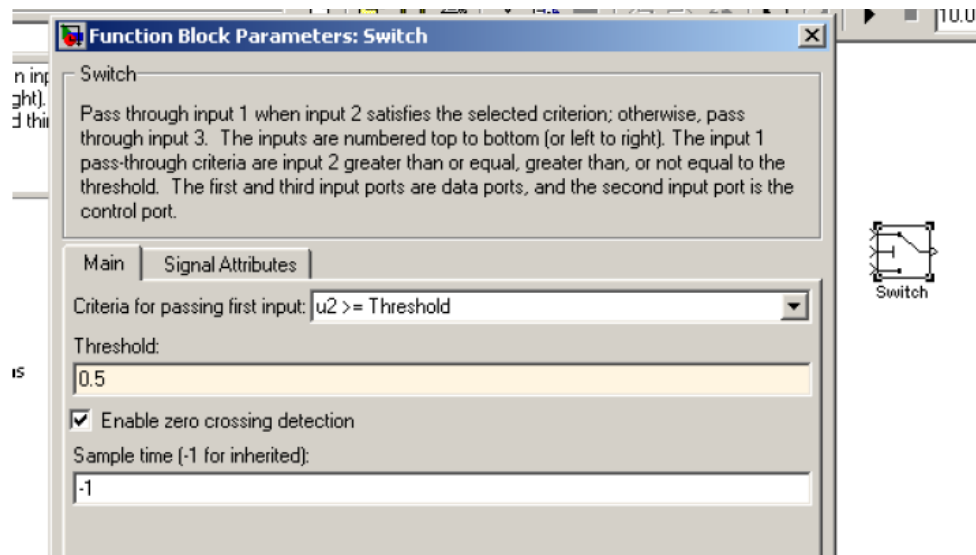
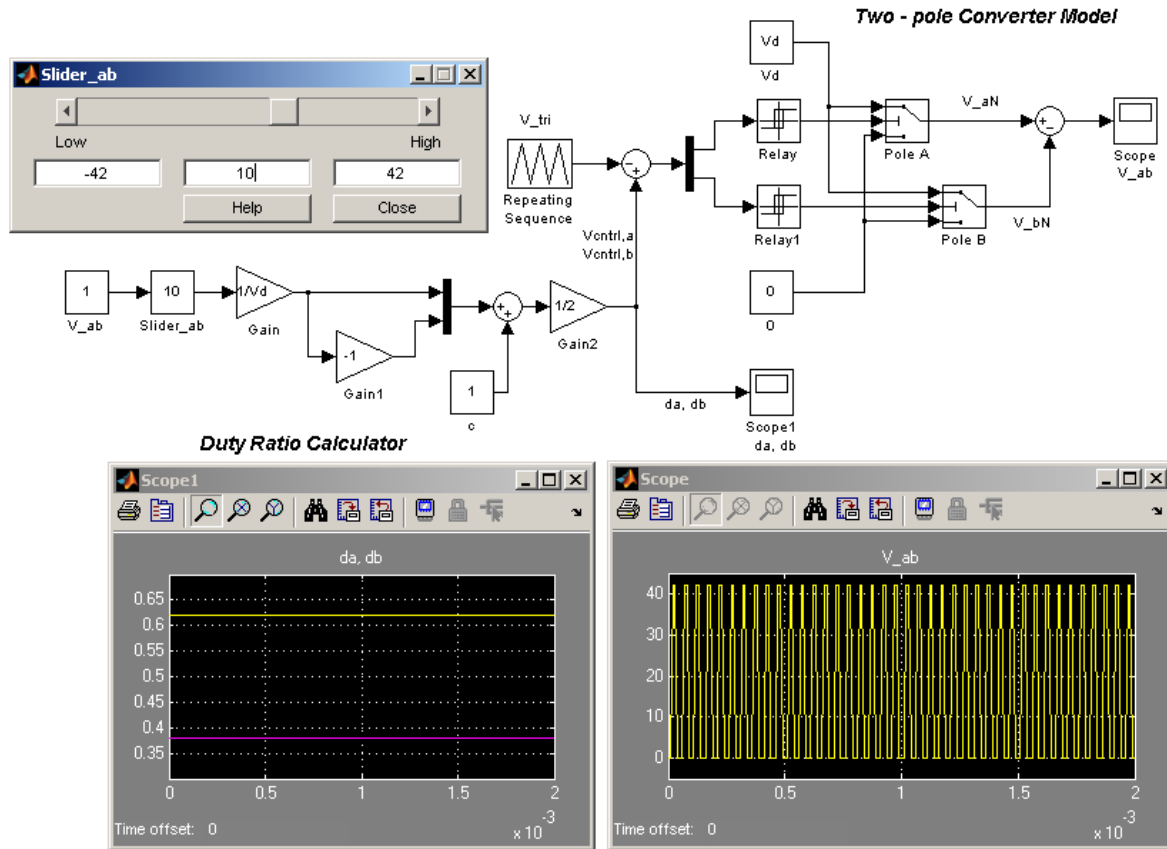

Figure 2.4: Settings for switch block
Figure 2.5: Two Pole Switch-Mode Converter Model in Simulink
Equations (7) and (8) describe the control voltages of the two poles A & B depending on the desired output voltage $\bar{v}_o = \bar{v}_{ab}$. These equations will be implemented in Simulink (Fig. 2.4). Also, the switching power-poles will be modeled using a **Switch**. The **Relay** blocks provide the switching functions for the poles q_a and q_b . Depending on the value of the switching function, the **Switch** outputs the pole-voltage as follows:
Create the Simulink model as shown in Fig. 2.5. The **Switch** block can be found in **Simulink** → **Signal Routing**. Change the threshold voltage of the switch to 0.5 (Fig 2.4), or to any number greater than 0 but less than 1. Can you tell why?
DS1104SL_DSP_PWM3 are the duty-ratios for the poles. In Fig. 2.5, the lower part of the model is called the *Duty Ratio Calculator*. This part of the model will again be used in the real-time model to generate the pole duty ratios. The triangular wave generator and comparison using relays will be replaced by **DS1104SL_DSP_PWM3**, as these functions are internal to the block. Two legs of the drives board (refer appendix ‘A’) will replace the two poles (modeled using the **Switches** in Simulink).